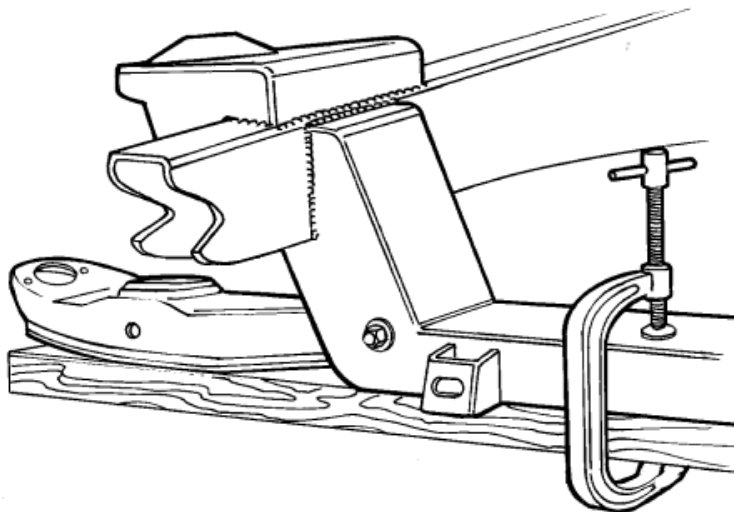

Figure 7- Install Lower Control Arms
11. If you are using factory lower control arms and strut rods you will continue here. Use the lower control arm and strut rod for locating the rear strut rod supports and gussets. Using a 2 x 4 and a C-clamp, install the control arm as shown in **Figure 7**.